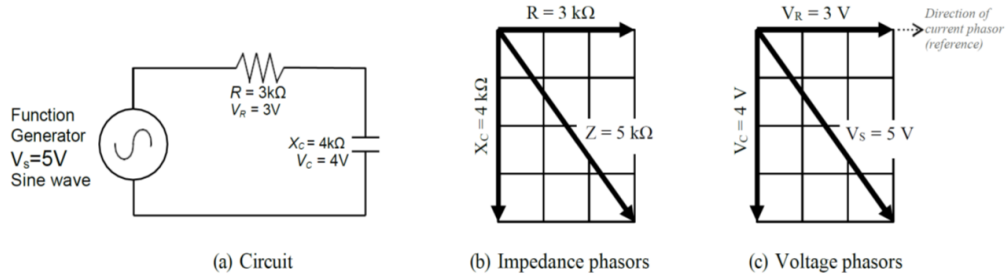

Figure 3.2: Phasor Diagram
A series RC circuit is illustrated in Figure 3.2(a) and a phasor diagram of its impedances is shown in Figure 3.2(b). The vector for resistance R is shown along the Real (X) axis, while the reactance X_C is shown in the negative Imaginary (Y) axis, since its voltage trails its current by 90° . The vector sum of R and X_C is labeled Z and has magnitude $5k\Omega$. Therefore, the magnitude of the current through the circuit is $V_S / Z = 1.0 \text{ mA}$.
in the phasor diagram, Figure 3.2(c).